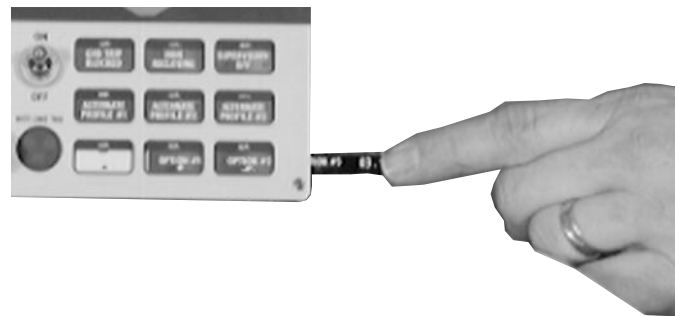

Figure 29. Labels (OPTION 1, OPTION 2, and OPTION 3) are easily removed from and inserted into the operating panel. 000008KM
- Note:** The insert will slide out of the right side of the operating panel (Figure 29).
6. Gently push the removable insert from right to left into the right side of the operating panel (Figure 29) or down into the programming panel LED indicator section (Figure 28).